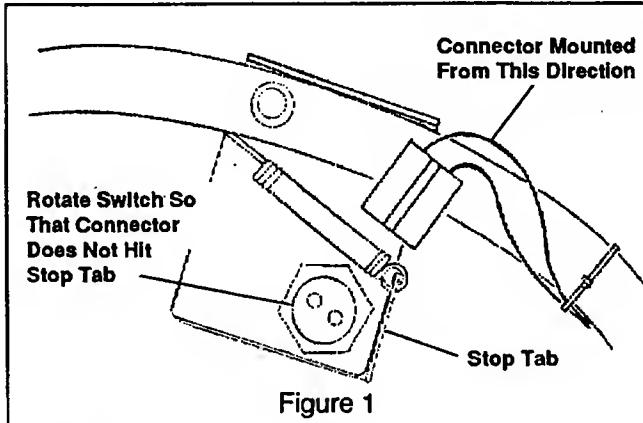

Figure 1
4. Route the safety interlock wires up the left handle tube and attach the connector to the switch as shown. Be certain that the connector does not hit the safety lever stop tab. If it does, rotate the switch to the position shown (See figure 1). Secure wires with cable ties.